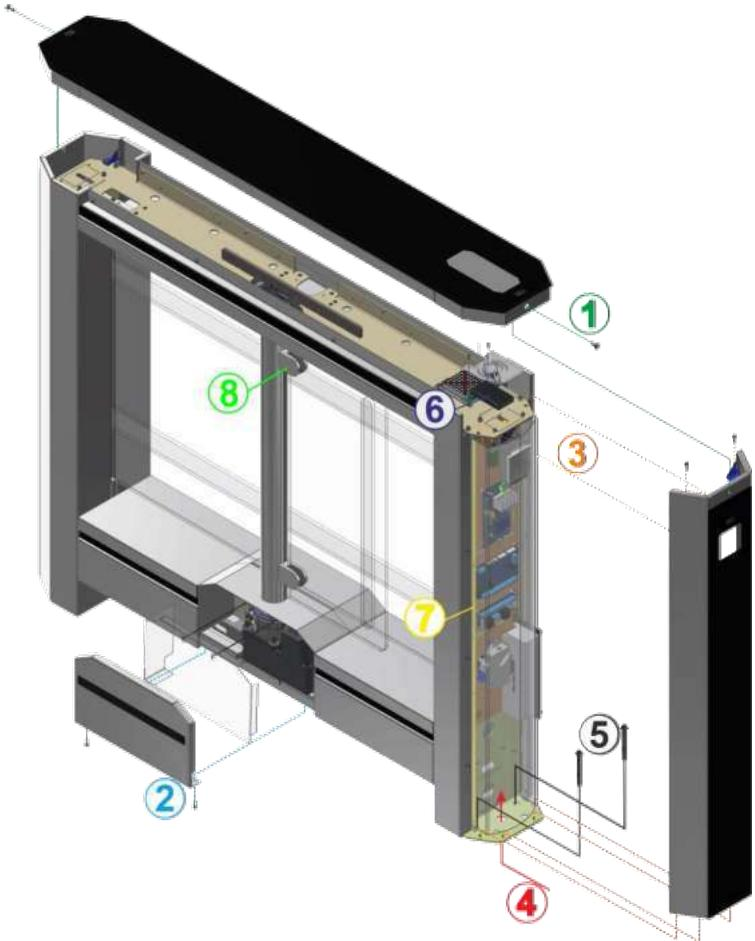

Fig. 20 - General view of the "Sweeper-WP-1" turnstile cabinet installation
- 2 - Remove the door and protective curtain (See Fig. 20);